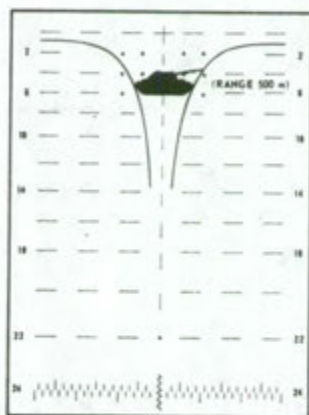

Figure 1.
- (1) Tank is broadside to the rifle location (figure 1).